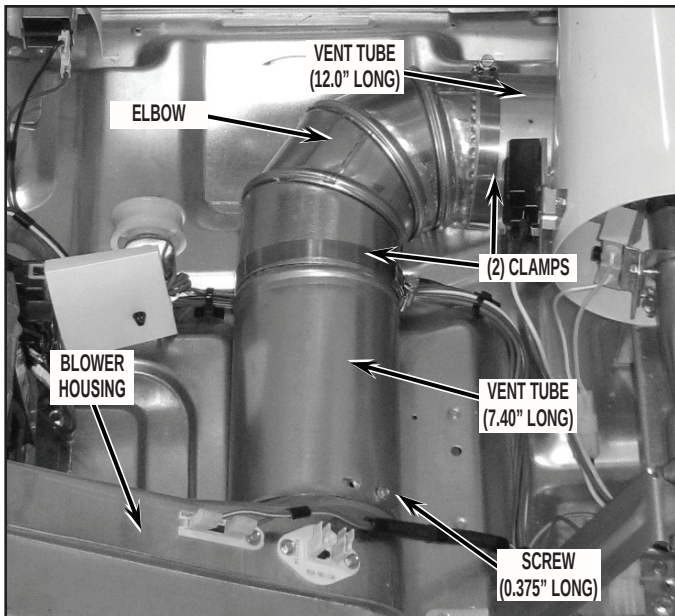
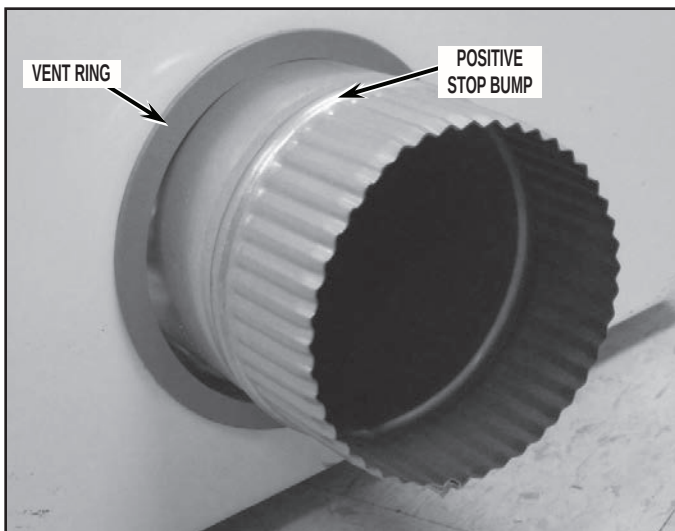

FIGURE 34
FIGURE 35
5. Assemble the 305 mm (12.0") long vent tube and elbow from kit together using clamp included in kit. Tighten clamp to hold sub assembly together. See *Figure 34*.
6. Feed this vent tube sub-assembly into the dryer and out the right side panel exhaust hole. Use clamp included with kit, slide it onto the elbow and press the elbow onto the 187 mm (7.40") vent tube. See *Figure 34*.
7. Assure the positioning of the exhaust vent assembly and securely tighten both clamps. See *Figure 34*.
8. From the outside of the dryer, install the vent ring included with kit by sliding over exhaust vent tube and snap into place. See *Figure 35*.
9. Assure the positioning of the exhaust vent assembly, making sure the positive stop bump on the 305 mm (12.0") long vent tube is on the outside of the dryer. See *Figure 35*. Securely tighten both clamps. See *Figure 34*.